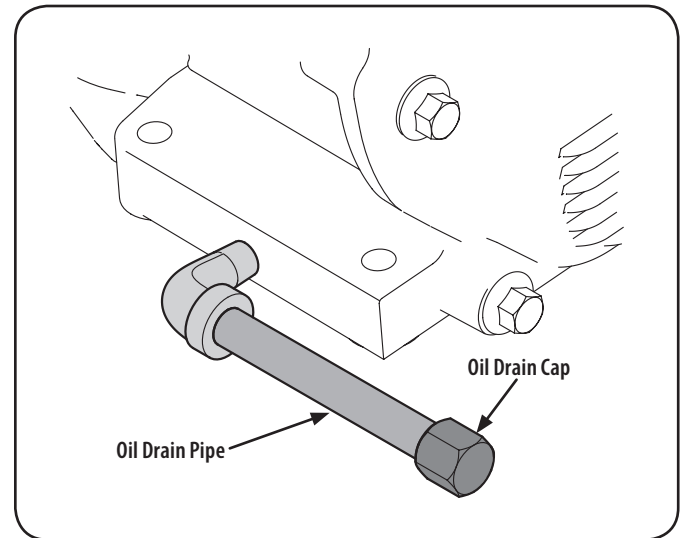

Figure 25
3. Remove oil drain cap located at the end of the oil drain pipe, and drain oil into an appropriate receptacle. See Figure 25.